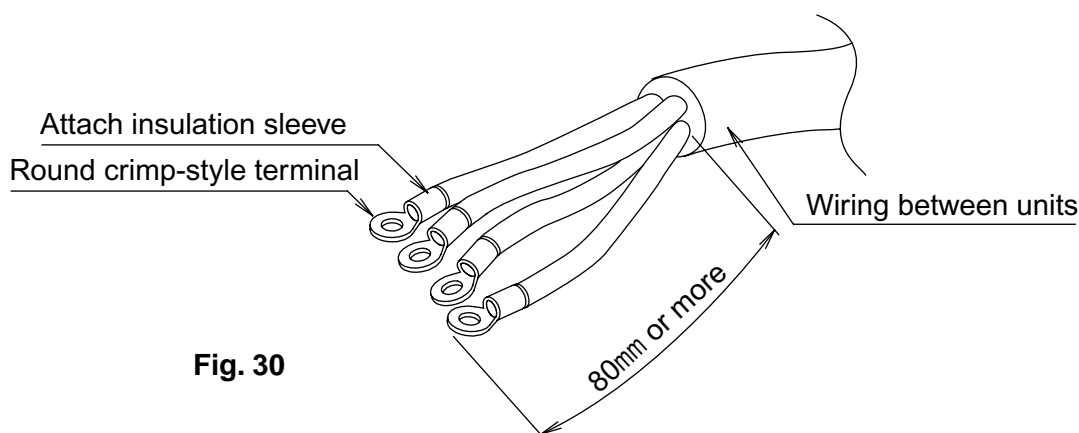

Fig. 30
- Give enough slack to the wires between the clamp (4) and power supply terminal block. (Use Fig. 30 as a guide and allow at least 80mm for removing the sheath.)
- Remove the control box lid and pull the wires inside through the hole and connect to the terminal block for remote controller (6P). (no polarity) Securely fix the remote controller cord with the included clamp (4).
- Give enough slack to the wires between the clamp (4) and the terminal block for the remote controller.
- After connection, attach sealing material (12)
(Refer to Fig. 30)